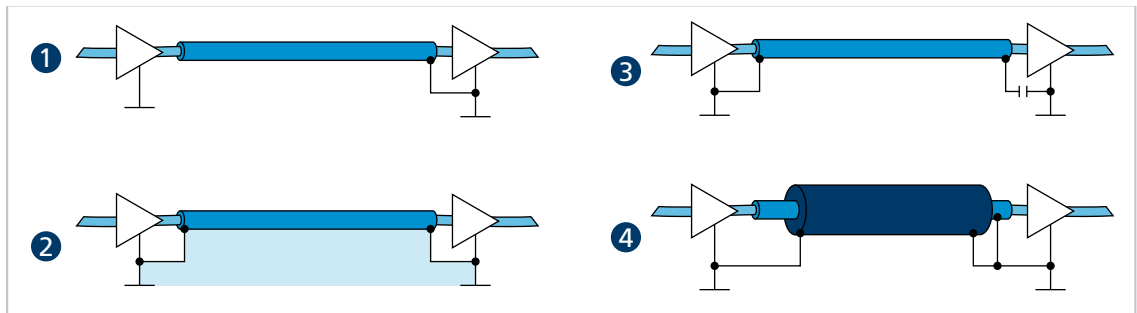

Fig. 36: Various possibilities for the shield connection
- ▶ Lay the motor phases in a shield, separate from the sensor or encoder signals, and connect on at least the motor side (see 1 or 2 in Fig. 36).
The sensor signals can optionally be laid with the motor phases in a shared cable/insulation hose using another outer braided shield. This outer braided shield must be connected at both ends (e.g., 4 in Fig. 36). A solution such as 2 in Fig. 36 is not functional in every case for this configuration. If this is not possible by means of a ground offset, establish the RF connection via specially suited capacitors (e.g., safety capacitors such as Y1/Y2/X1/X2, see 3 in Fig. 36). In this case, do not connect the shield multiple times except at the motor connection and controller side.